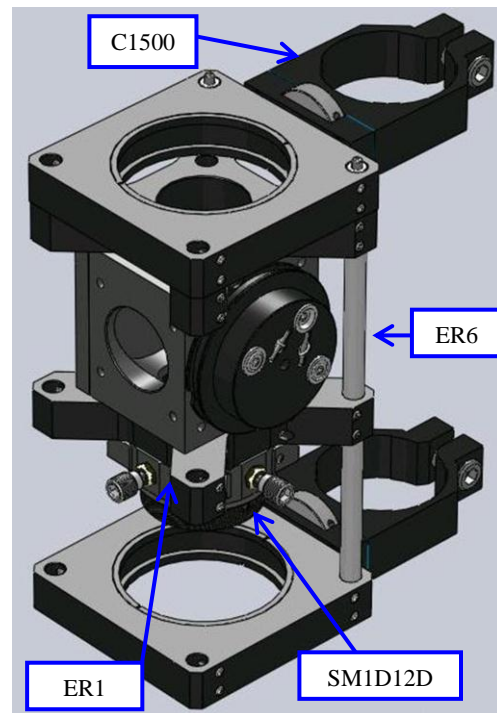

Figure 5.4.2: The complete condenser segment
paper as indicated by red arrow). If the B5C is mounted at the appropriate hole on the B4C, and the coarse adjustment is correct, the kinematic adjusters on the B4C should be aligned along the diagonal of the C6W as can be seen in Figure 5.4.2. Use the four screws that came with the B4C to connect this to the C6W.
10. Connect an HPT1 to the four ER1 rods at the bottom of the assembly above, and lock HPT1 to assembly through the set screws. Make sure the adjusters on the HPT1 are oriented as shown in Figure 5.4.2.
14. Using two of the four ER6 cage rods, connect the two assemblies from steps 12 and 13 to the C6W assembly as shown in Figure 5.4.2. Use the holes on the side with the C1500. The other holes will be used for alignment with the lower vertical segment.